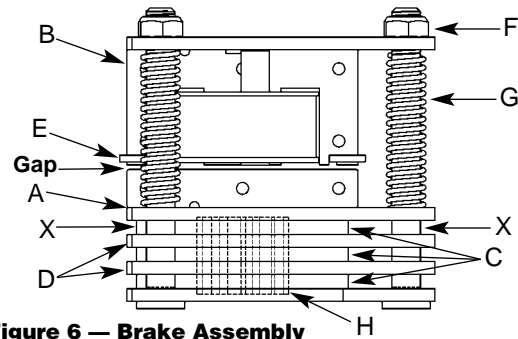

Figure 6 — Brake Assembly
2. Refer to Figure 6. Open disc brake manually by using two screwdriver blades, one on each side of the brake at a point close to the brake spring posts. Apply pressure to the underside of the armature plate (points "X") to close the solenoid and release the brake.
Refer to Figure 6.
2. With reference to Figure 6, the gap between the brake armature "A" and the field "B" should be checked. The correct gap is 0.015". Adjustment should not be necessary until gap reaches 0.040".